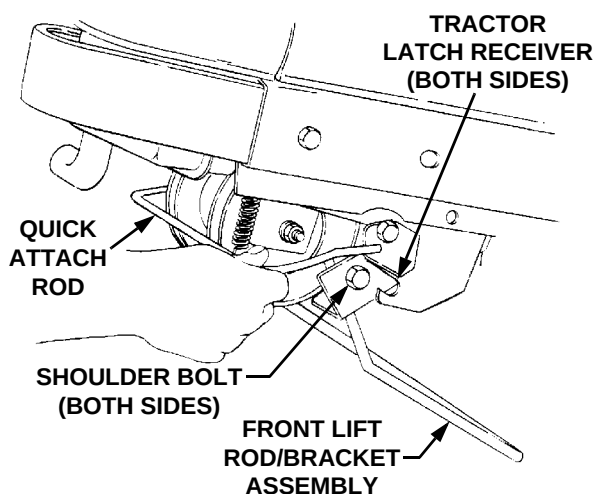

Figure 49
10. From the front of the tractor, push downward and hold the tractor quick-attach rod. Pull the front lift rod/bracket assembly forward to release the shoulder bolts on each side of the bracket from the left and right tractor latch receivers. Release the tractor quick-attach rod (Refer to Figure 49).